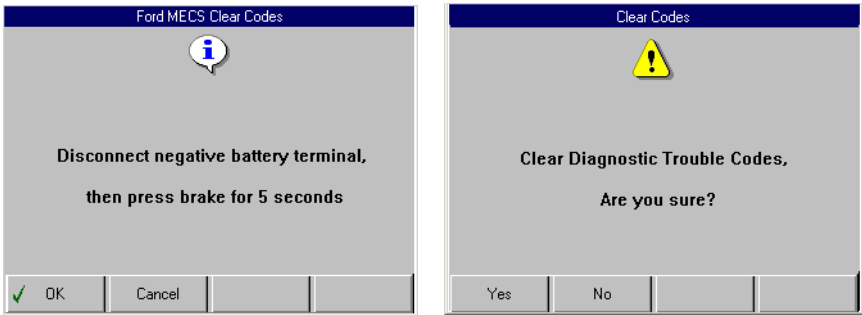

Figure 3.58: Ford Clear Codes Instruction Screen and Warning Screen
- 2 Select **Clear Codes** and press the **ENTER** key. This displays either an instruction screen or a warning screen (Figure 3.58 on page 63).